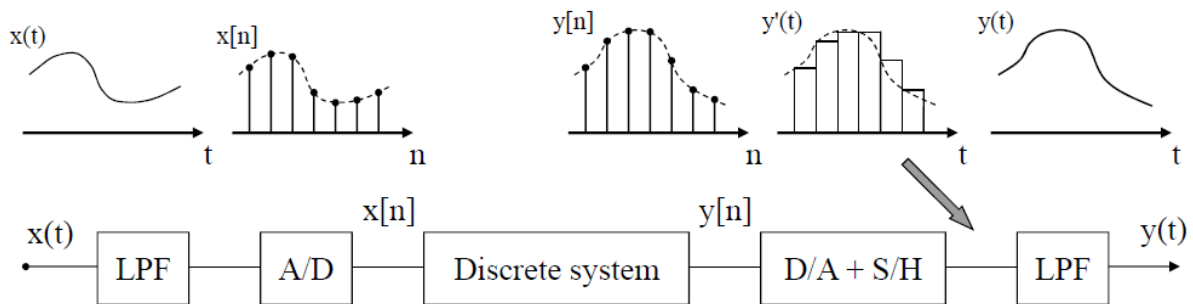

Figure 4: Complete sampling and reconstruction chain implemented on the STM32F746G board.
**Question 4 [ 2pt / 10 ]:** the STM32F746G board implements the block diagram illustrated in Figure 4 and that has been discussed in one of the recent FPS lectures. What simplification in this block diagram does the above `stm32f7_loop_intr.c` code enforce ?